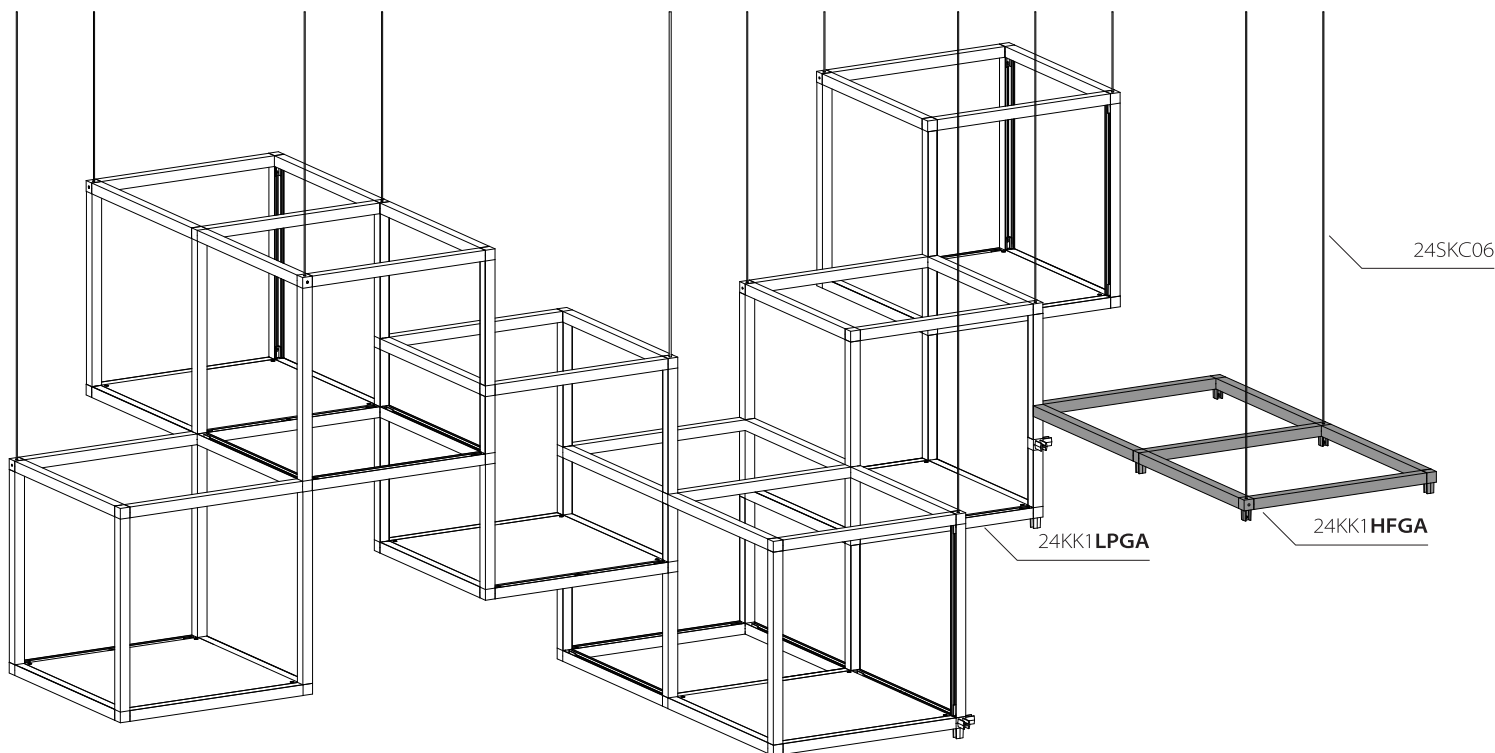

Fig. 17a
- 26a. Install 24KK1HFGA to 24KK1LPGA assembly as shown in Fig. 17a.